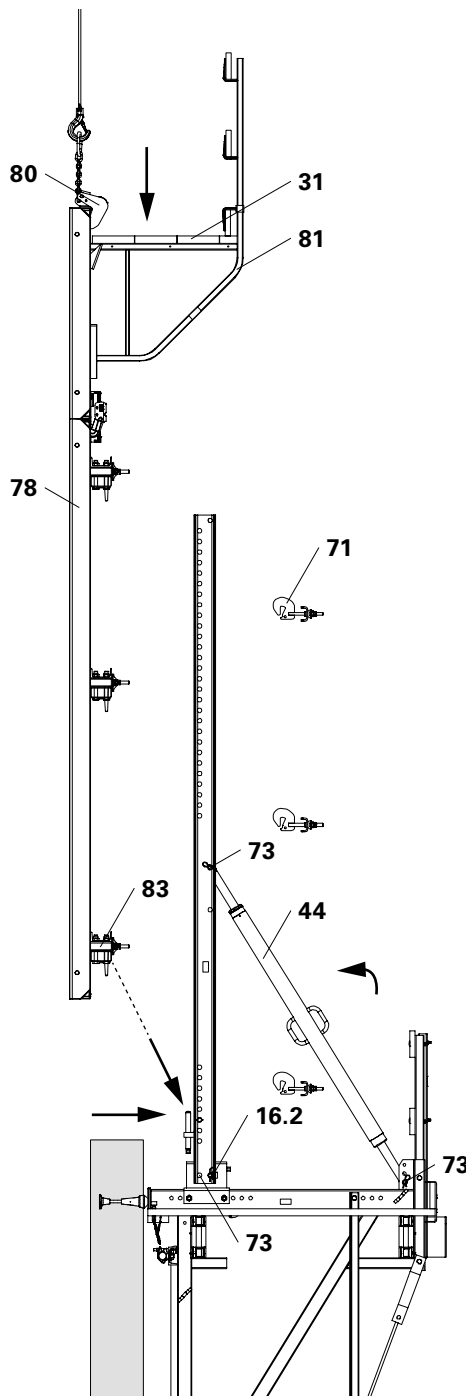

Fig. B2.30
2. Fix Strongback CB to the Adjusting Unit CB by means of Bolts \varnothing 25x180 (73) and Cotter Pins 4/1.
3. Fix Adjustable Brace CB 164-224 (44) to the bracket and Strongback CB using Bolts \varnothing 25x180 (73) and Cotter Pins 4/1.
4. Brace strongbacks laterally. (Fig. B2.30)